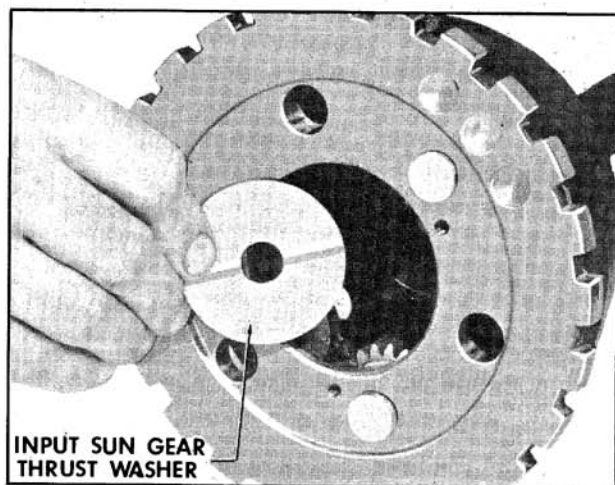

Fig. 6-470 Installing Thrust Washer
6. Install the input sun gear thrust washer with the oil groove facing input sun gear. (Fig. 6-470)